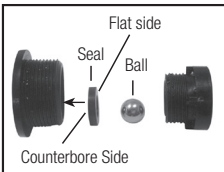

Figure 7
9) To rebuild disassemble two halves of cartridge and replace seal and/or ball. Replace cartridge (Figure 7). The seal mounts inside the larger of the two halves of the cartridge. The seal counterbore side mounts into the grooves in the cartridge half. Pump performance may be affected if this is not assembled correctly.